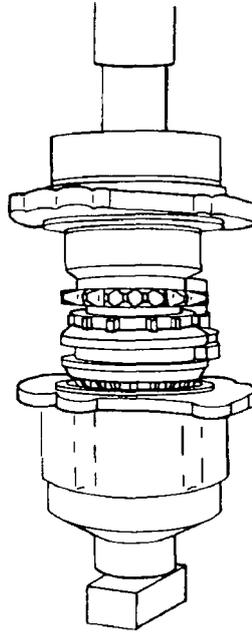

Figure 203 Installing the Torque Limiter into the Housing
- k.** Support the torque limiter housing and carefully press the torque limiter and ball bearing assembly into the recess, ensuring that the output shaft is centred in the mounting face (Figure 203).